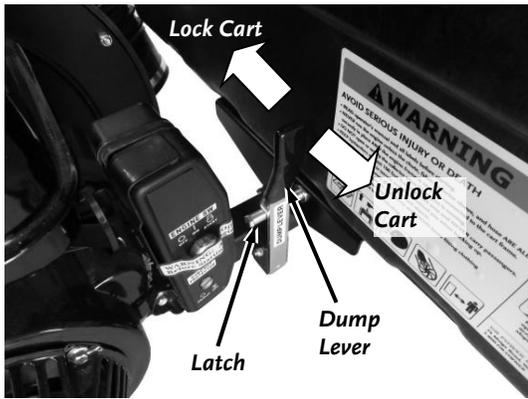

Figure 91
8. Pull the Dump Lever out to raise the Cart Bed (**Figure 91**).